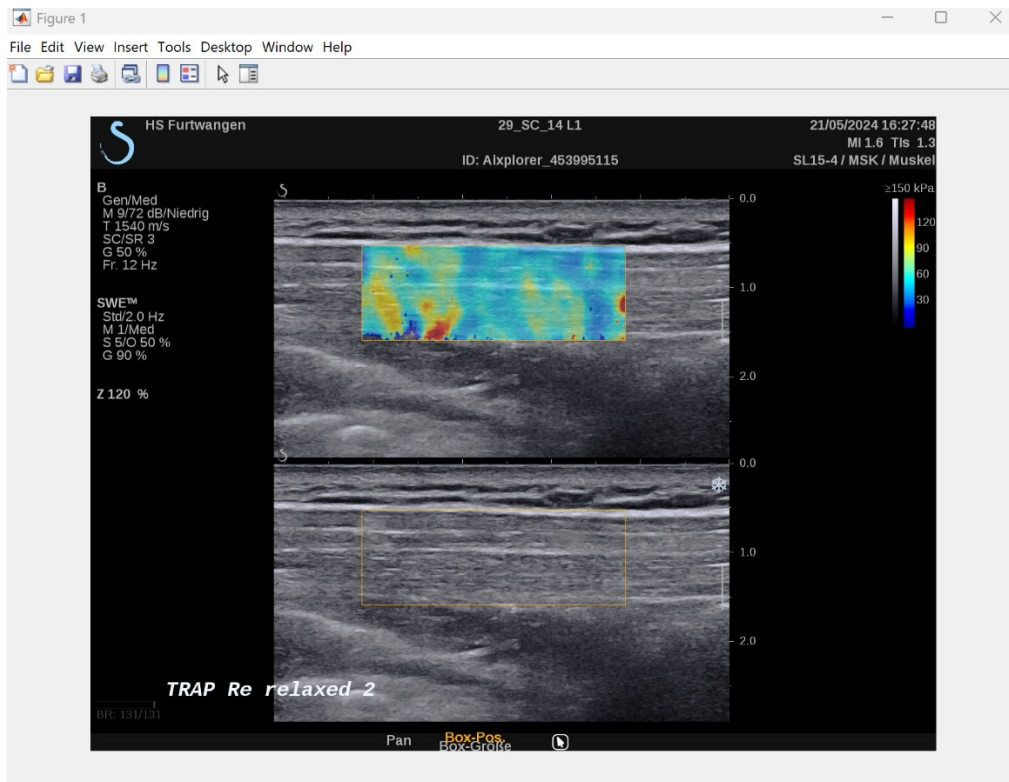
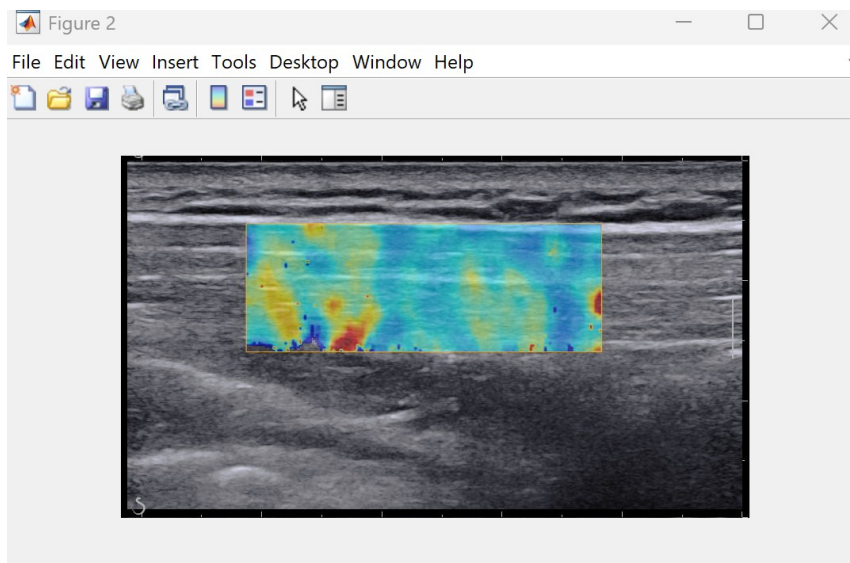

Figure 4: Full ultrasound image, opened as a new window in which the image can be segmented manually.
Figure 5: Greyscale image containing the superimposed elastogram, opened as a new window in which the elastogram can be segmented manually.
- M. The image viewer displays whichever frame or image type the user wants to see. Upon importing, the first entire frame of the input file is displayed by default. Manual segmentation opens the ultrasound frame in a new window. There the user should select the top left and the bottom right corner of the greyscale image containing the elastogram (Figure 4). Next, the selected region is opened in a new window again, where the user should select the top left and bottom right corner of the elastogram (Figure 5). The user is instructed about this through MATLABs command window.